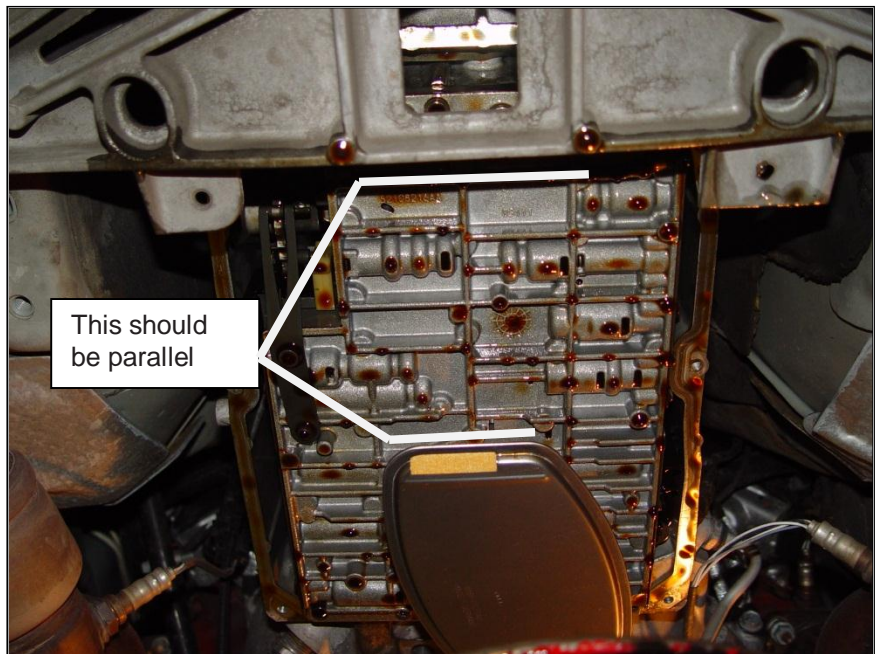

Figure 4
STEP 9. Make sure the flat end of the filter is parallel to the back of the transmission (See Figure 4).